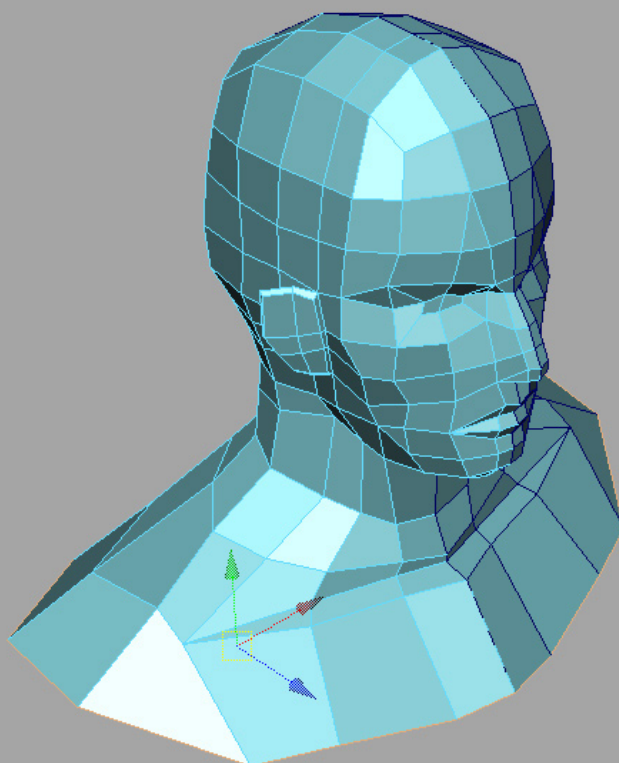

Fig 04
4. Select again the lower edges and create a new set of faces using the same tool "Edit Polygons > Extrude Edge". Rearrange the vertices to get a better shape. It's better to spend some time arranging the vertices well into position, as better as you can, before making the extrude. This will save your time later and it's much more easier to follow the main line of the model (Fig04).